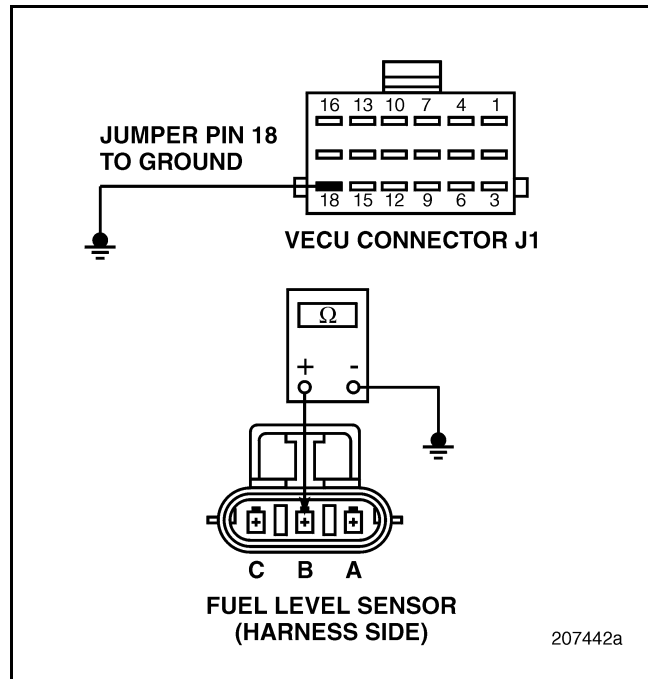

Figure 610
2. Disconnect the harness connector from the Fuel Level (FL) Sensor.
5. Check for continuity between Fuel Level (FL) Sensor harness connector pin B and a good ground (see Figure 610).